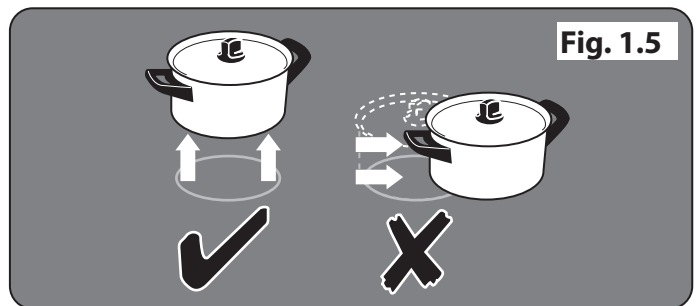

Fig. 1.5
- **ALWAYS LIFT** cookware off the hob. Sliding the griddle plate or pans may cause marks and scratches (**Fig. 1.5**).